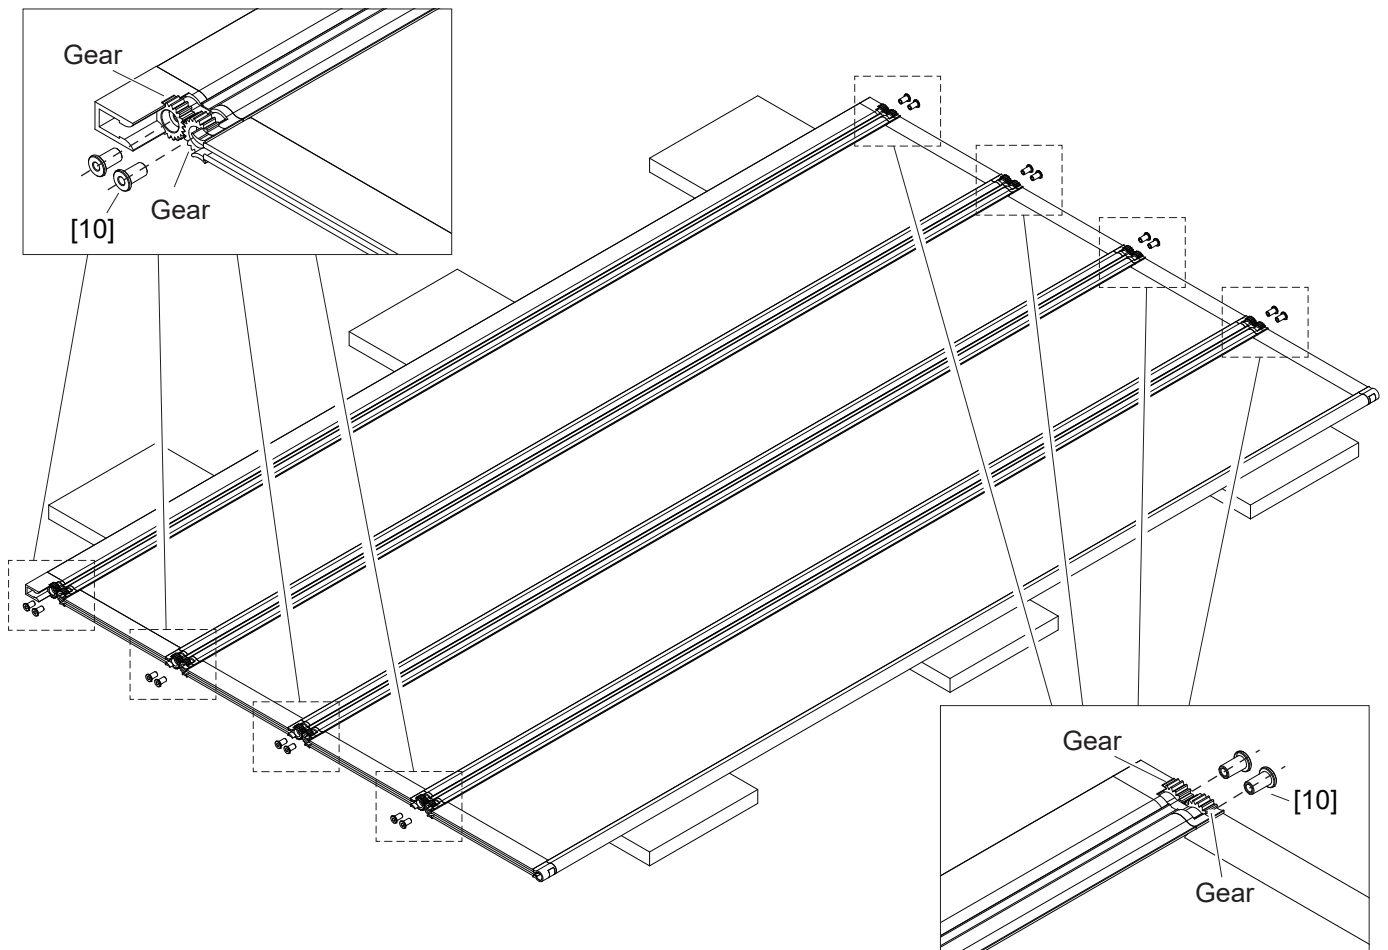

Fig 3
1. Install and push 16 **Screw Gaskets [10]** into the holes of **Gears**. (Fig 3)